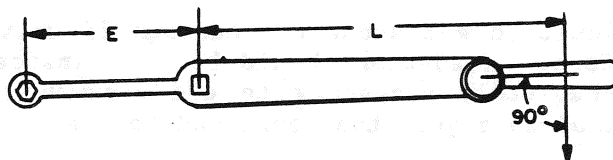

Figure 5.19. Wrench With Adaptor Attached to Square Drive
6. If an adaptor or extension is attached to the square drive, which changes the length of the torque wrench, the readings on the dial will not give the actual torque. A simple formula, however, enables one to figure out what the dial should read for a pre-determined torque using any adaptor (Figure 5.19).
7. The letters in the formula have the following meaning: (See Figure 5.19)